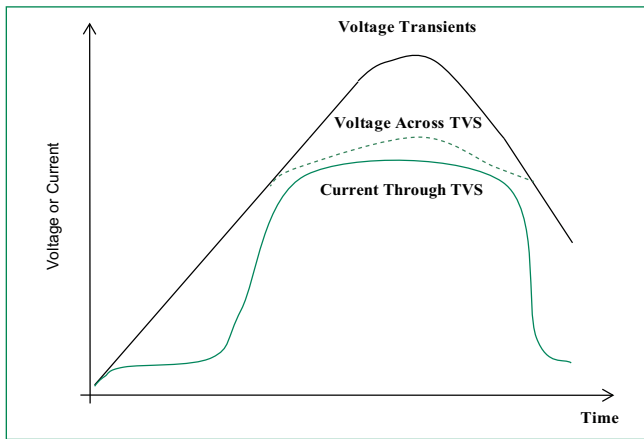

Figure 2 -
- Surge current waveform per 10/1000 μ s exponential wave and derated per Fig.2.